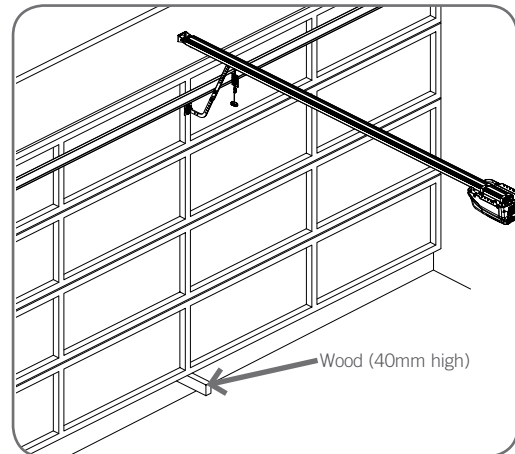

Fig. 29
- Place a piece of timber approximately 40mm high on the floor directly under the door (**Fig. 29**).